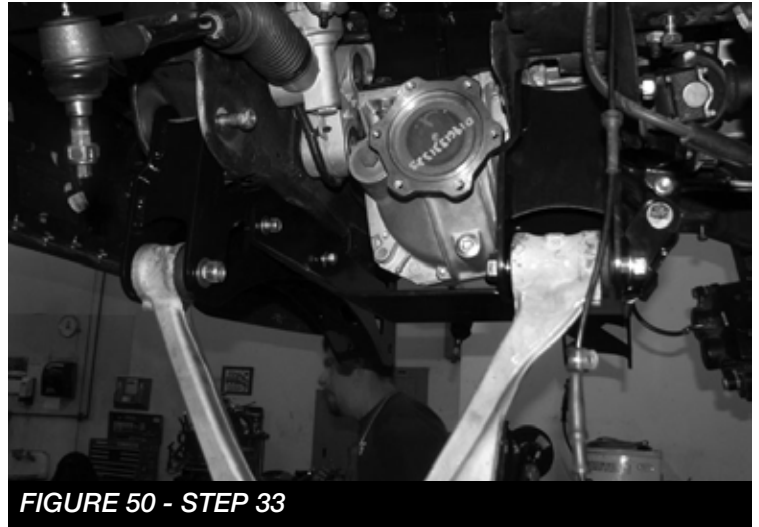

FIGURE 50 - STEP 33
33. Reinstall the lower control arms using the provided 5/8"-11 X 4-1/2" bolt, washers and nut for the front pocket. Use the 5/8"-11 X 5-1/2" bolt, washers, and nut for the rear pocket. Leave loose at this time. **SEE FIGURE 50**